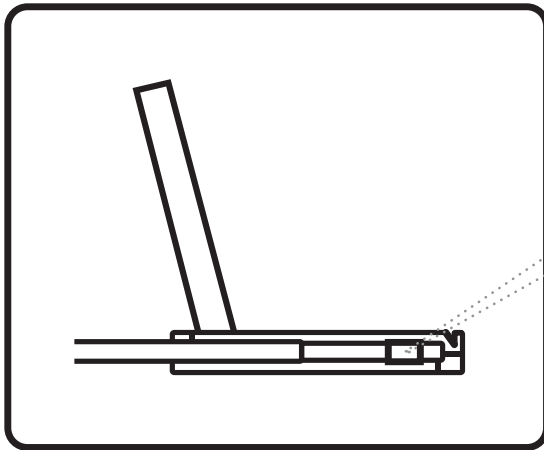

Figure 1.
- A black arrow release button is located on the outside of each slide. (shown in **Figure 1**).